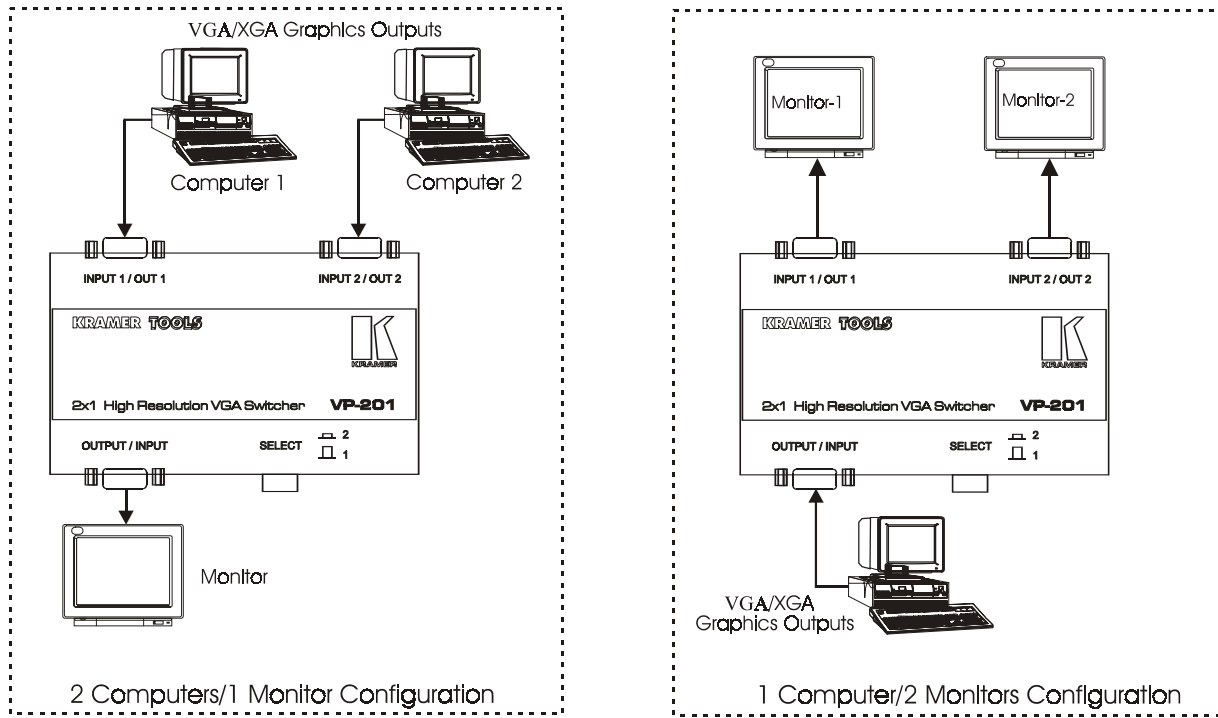

Figure 5: VGA/XGA Switching
Figure 5 illustrates typical VGA/XGA switching configurations of the VP-201: In the "2 computers/1 monitor" configuration, one of two input signals from the computers is selected by the **SELECT** pushbutton (**INPUT 1** or **INPUT 2**) and switched to the monitor. In the "1 computer/2 monitors" configuration, the input computer signal is switched either to monitor 1 or monitor 2, depending on the **SELECT** pushbutton position (**OUT 1** or **OUT 2**).
- 1) Connect VGA/XGA source/s to the VGA/XGA input/s of the VP-201 as shown in Figure 5.